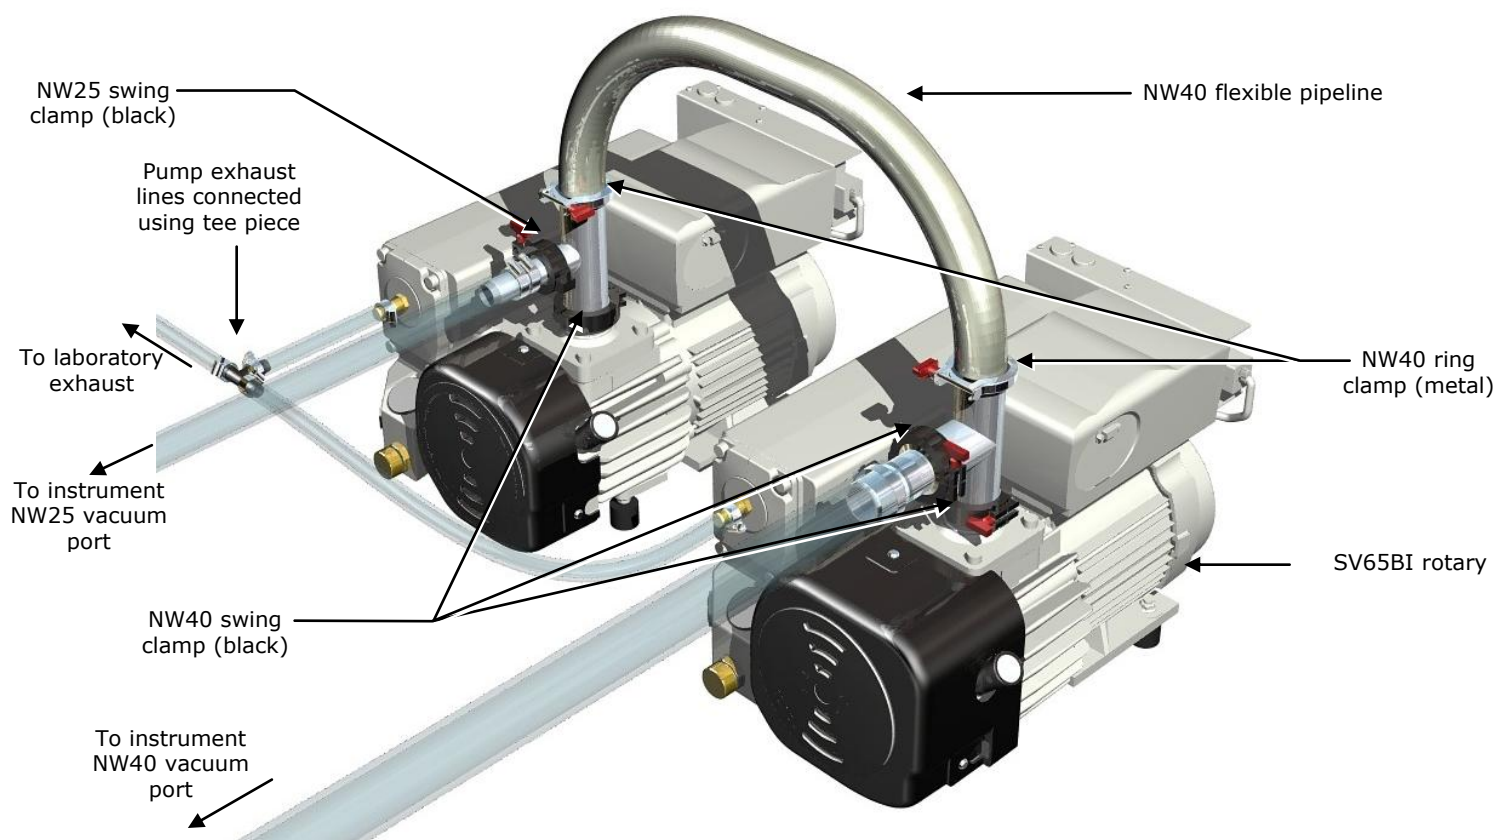

Figure 14 - Rotary pump/vacuum hose configuration
4. Configure the vacuum hoses using the appropriate components (Figure 14).